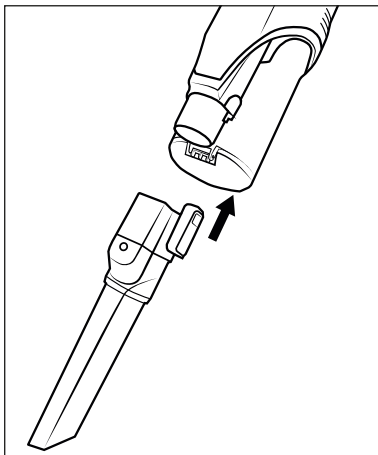

Fig. 14
- Use the round brush nozzle ①④ with its hard bristles for deep-seated dirt on coarse carpets or heavily soiled car interiors. The brush attachment can be removed from the nozzle to vacuum rounded inserts or storage compartments in the car, for example.
- ◆ Push the accessory onto the suction pipe 24 or onto the suction opening of the appliance until it clicks into place (see Fig. 14). Make sure that the locking mechanism is in the correct position.